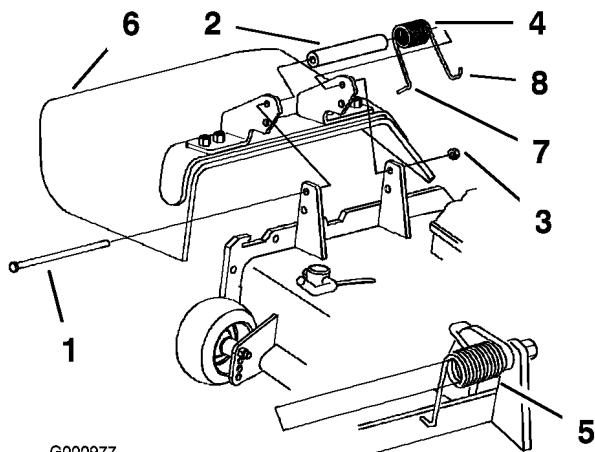

Figure 81
1. Remove the locknut, bolt, spring and spacer holding the deflector to the pivot brackets (Figure 81). Remove the damaged or worn grass deflector.
3. Install the bolt and nut. Place the **J** hook end of the spring around the grass deflector (Figure 81).
Note: Make sure the L end of the spring is installed behind the deck edge before installing the bolt as shown in Figure 81.